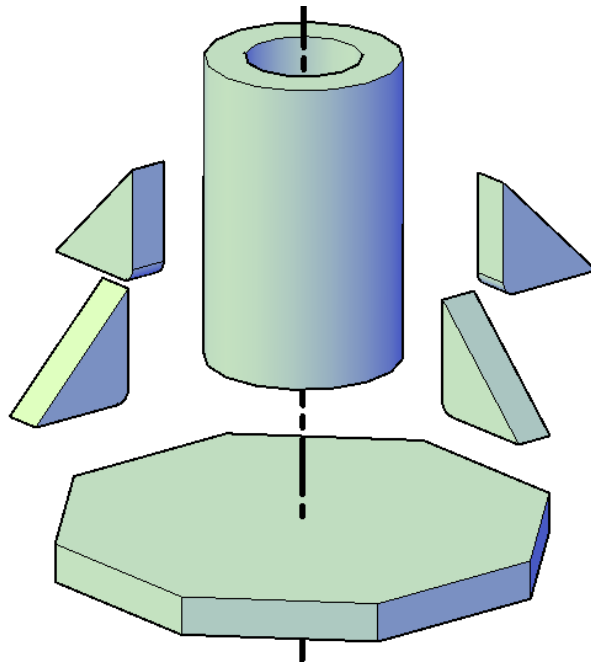

Figure 4a
- b. Figure 4a and Figure 4b show an exploded and a fabricated Vertical Shaft Support respectively. The fabrication was carried out in the following sequence: